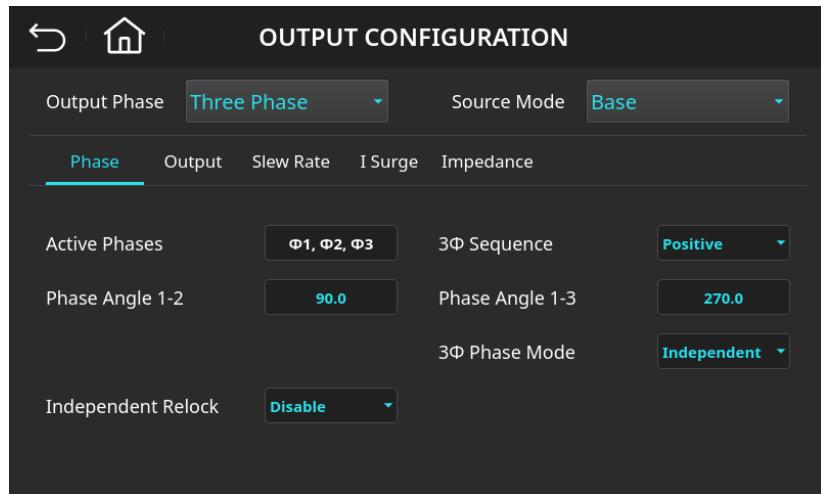

Figure 4-28: Output Configuration (Phase) Page – Phase Angle 1-2 = 90.0, Phase Angle 1-3 = 270.0
5. Enter **2**, **7**, **0**, then press the **Enter** key. The value will change to “270.0”, as shown in Figure 4-28.